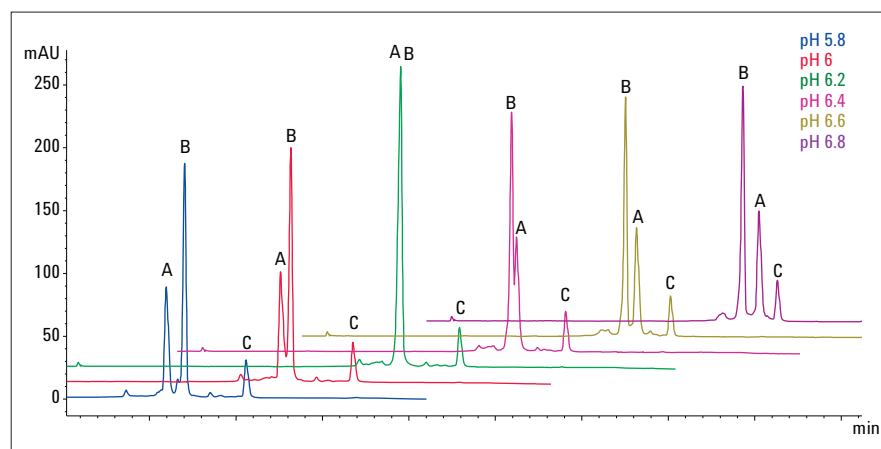

Figure 6
The pH scouting for the three-protein mix of ribonuclease A (A), cytochrome C (B) and lysozyme (C) demonstrates the benefits of the Agilent Buffer Advisor software (Figure 6). Even small pH changes of 0.2 have a strong influence on the retention of the proteins on the weak cation exchange (WCX) column. Changes in the elution order become obvious when the pH is changed from 5.8 to 6.8.
In contrast, the Buffer Advisor software is capable of automatically and reproducibly mixing all six separation conditions out of four stock solutions without any manual interference. The optimal resolution was achieved at pH 5.8 (Figure 6).